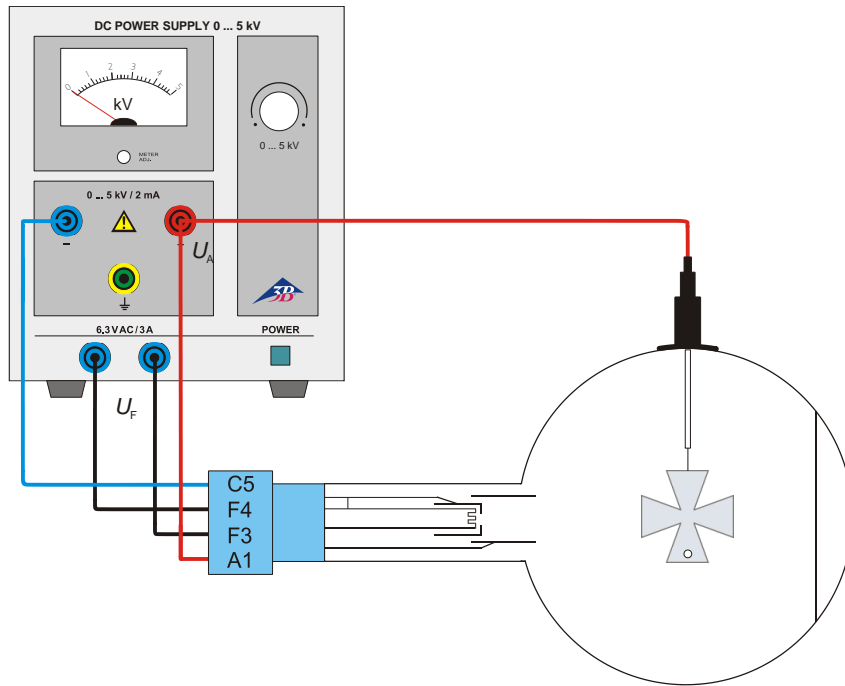

Fig. 1 Linear propagation of cathode rays
- Set up the tube as in Fig 1.
- Set up the circuit as in Fig 1.